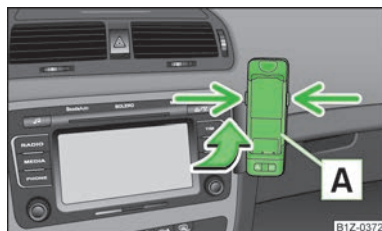

Fig. 106
- First of all push the adapter **A** in the direction of the arrow » Fig. 106 up to the stop into the mount. Then press the adapter slightly downwards, until it locks securely into position.
- Simultaneously press the locks on the mount » Fig. 106 and remove the adapter with the mobile phone.